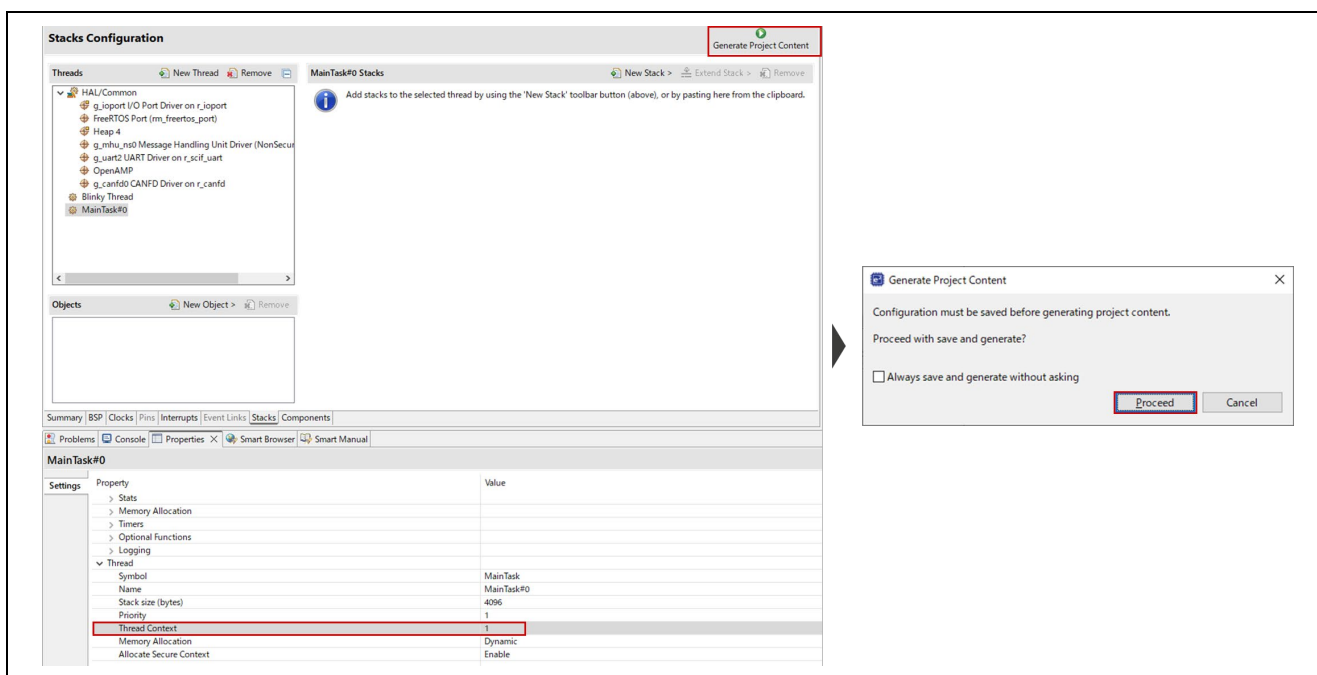

Figure 4-4. RPMMsg Channel Setting
1. Choose **rzv2l\_cm33\_rpmsg\_linux-rtos\_demo Debug\_Flat** or **rzv2l\_cm33\_rpmsg\_linux-rtos\_demo Release\_Flat** from the drop-down list indicated by a red arrow in Figure 4-4.